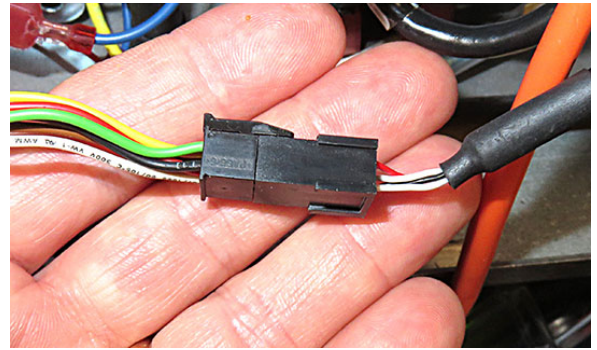

Figure 18
22. Connect the male end of the OQS harness to the adaptor in step 19 (see Figure 18).